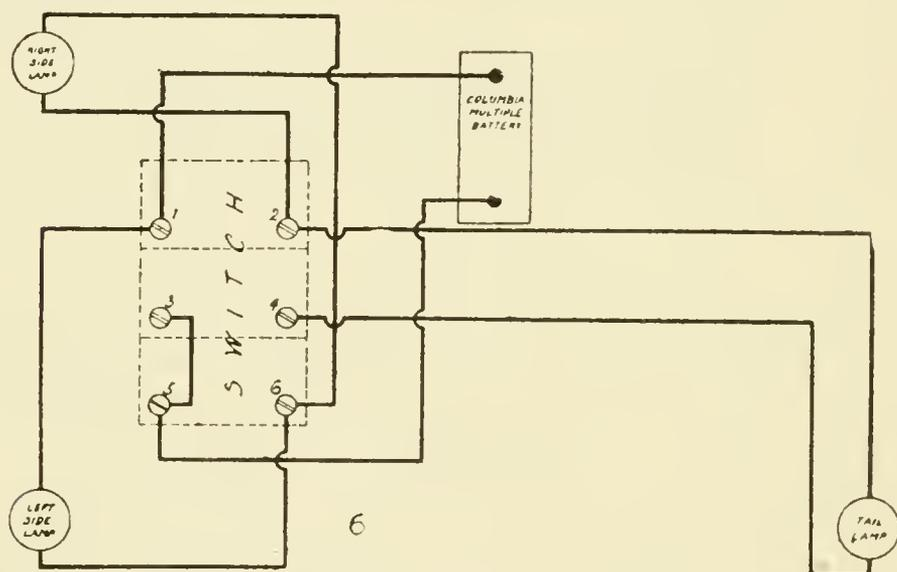
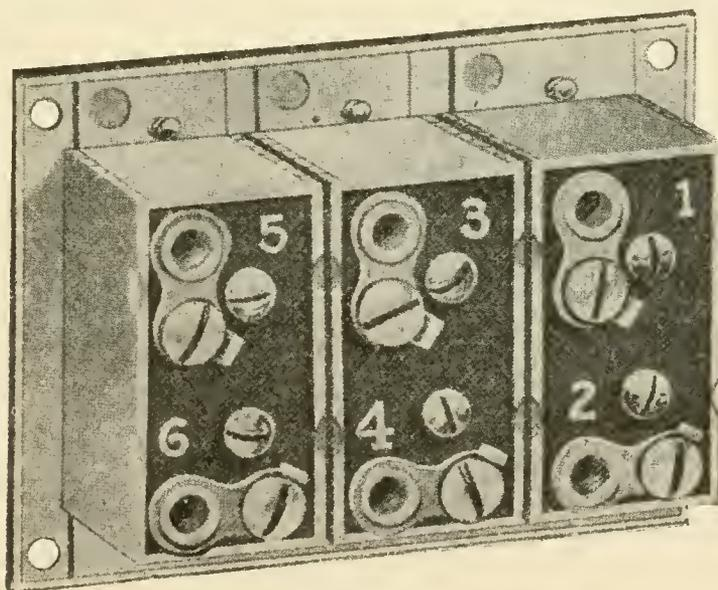

Fig. 2—Wiring Plan for Auto.
Fig. 4—Rear View of Switch.
The figures shown in Fig. 2 correspond with the same figures shown in Fig. 4. Fig. 4 shows details of the switch, while Fig. 2 is diagrammatic and shows how to make connections.
*Refer to Fig. 2 when reading the following directions:*
By referring to Fig. 4 and to the diagram, Fig. 2, and connecting the wires as indicated in the above directions, no one should experience any difficulty.